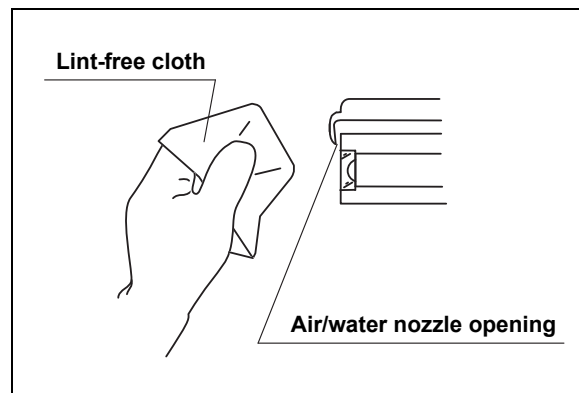

Figure 3.21
3. With the endoscope immersed, use a soft brush or lint-free cloth to thoroughly brush or wipe all external surfaces of the endoscope. Pay particular attention to the air/water nozzle opening and ensure that all surfaces of the distal end are cleaned thoroughly (see Figure 3.21).